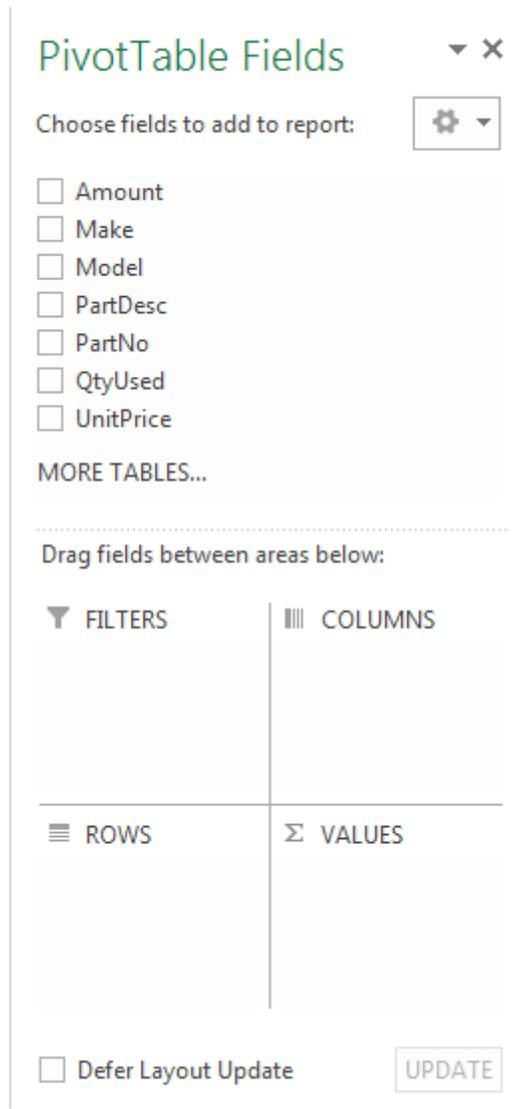

Figure 10: PivotTable Fields
3. **Place Fields on the Diagram:** To place the fields onto the diagram, you may drag them from the Field List window at the top into the designated areas at the bottom (Figure 10). Until you are familiar with the design window's labeled areas, it is suggested that you use the area choices as follows: place the